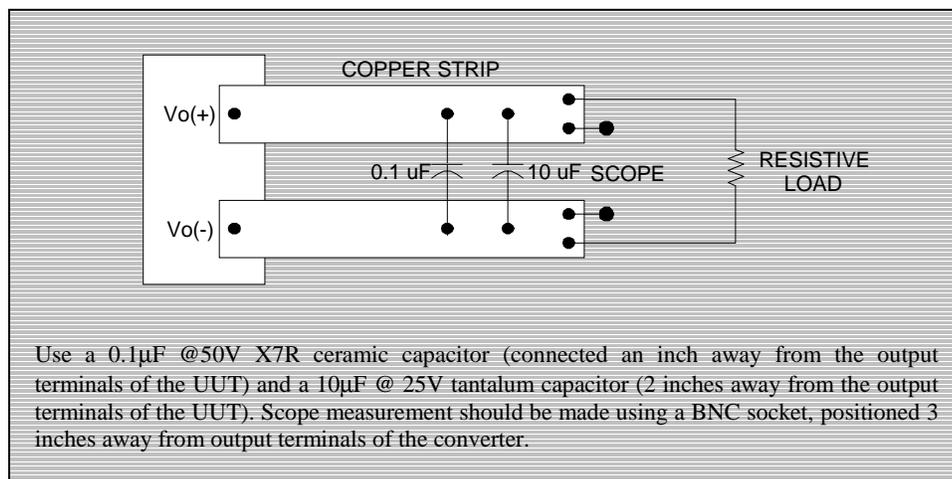

Figure 2. Peak to Peak Output Noise Measurement Setup.
3. Refer to Figure 2 for the Output Ripple and Noise Test Measurement Setup.